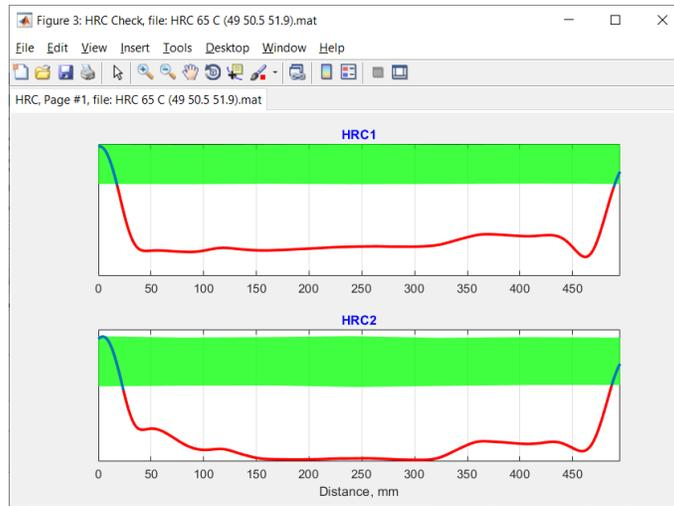

Figure 111. Part with Very Low Surface Hardness (50-52 HRC).
- **Example 1:** Displays a part with very low surface hardness, ranging approximately between 50-52 HRC, indicating significant deviations from desired hardness levels. (Figure 111)